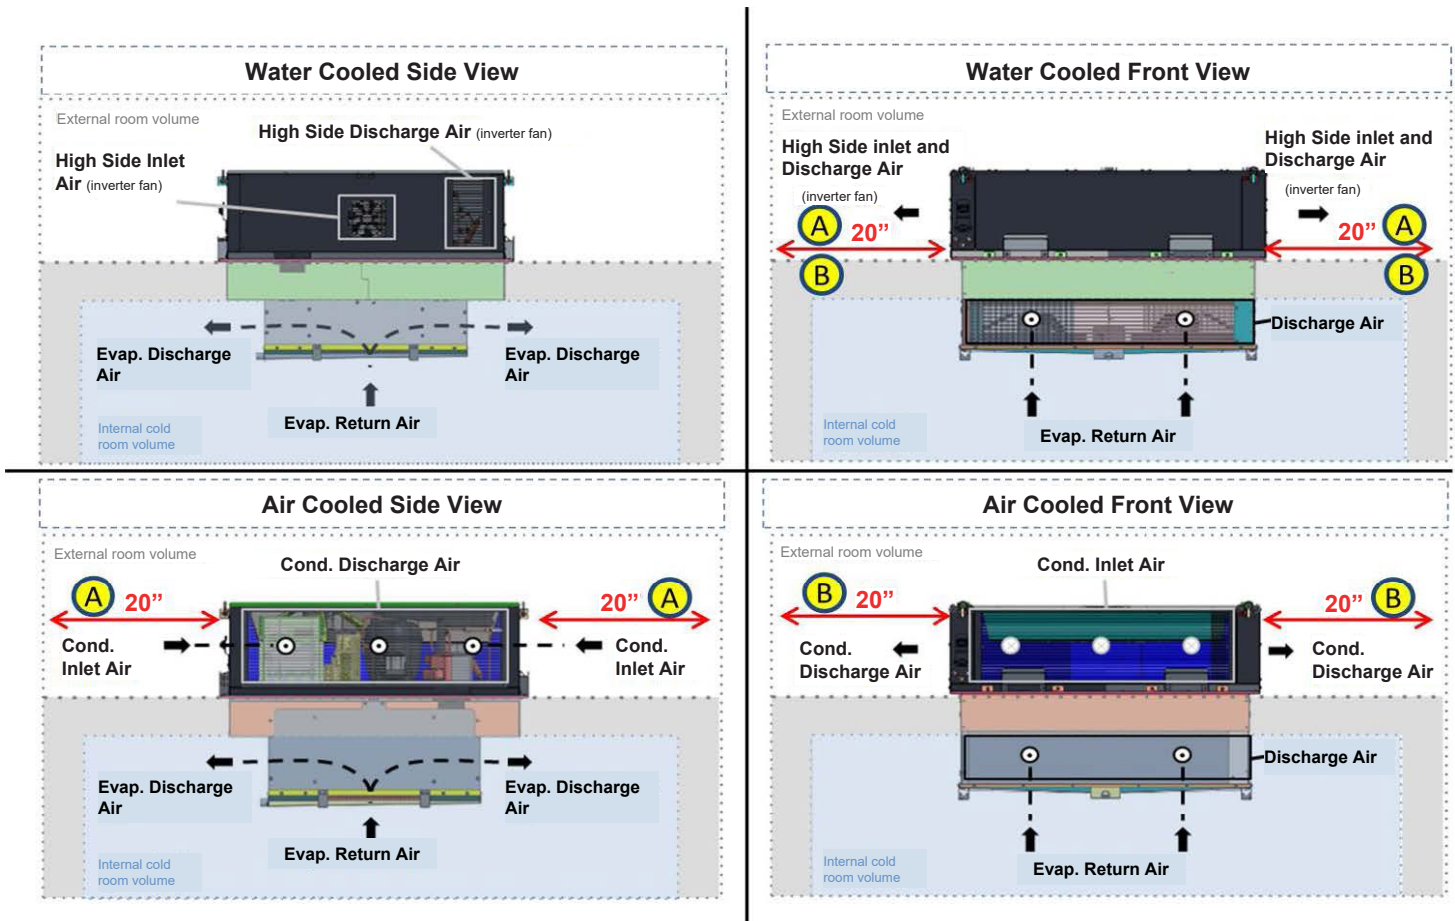

Figure 5 – Airflow schematics
- Minimum distance between the condenser inlet side and any wall or obstruction is 20"; See "A" in Figure 5.
- Minimum space between condenser outlet side and any wall or obstruction is 20"; See "B" in Figure 5.